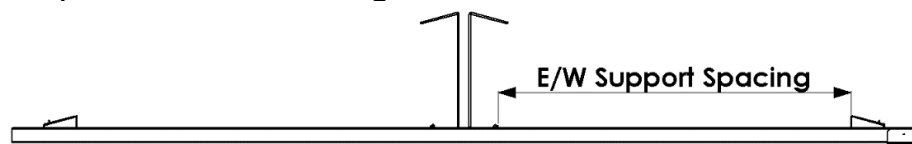

Figure 14 - Second E/W Row Support Spacing
- 7 Complete the E/W bay by clicking in Bottom Support at the *E/W Support Spacing*, with your spacing stick. Ensure the Bottom Support mirrors the one installed in Step 2, as shown in Figure 14.